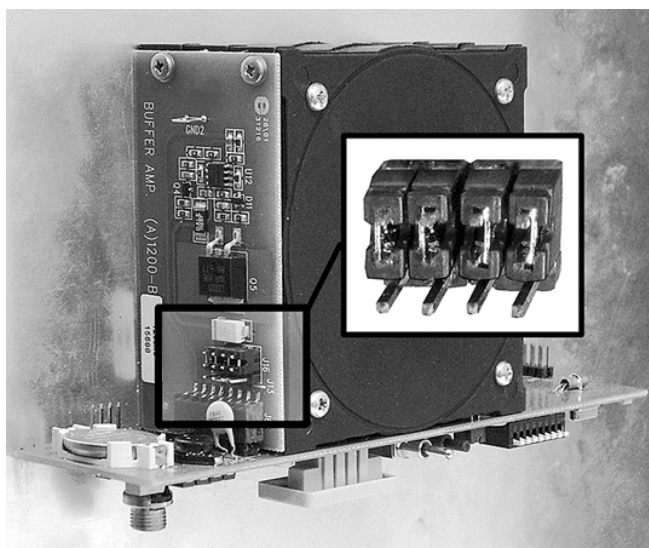
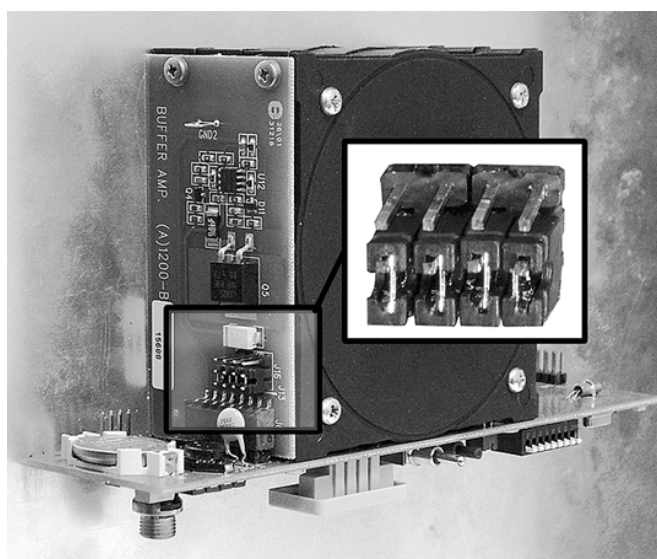

Figure 6: Setting the Clock to Master Mode
Figure 7: Setting the Clock to Slave Mode
3. Replace 4 jumpers in master or slave position as shown in Figure 6 or Figure 7.